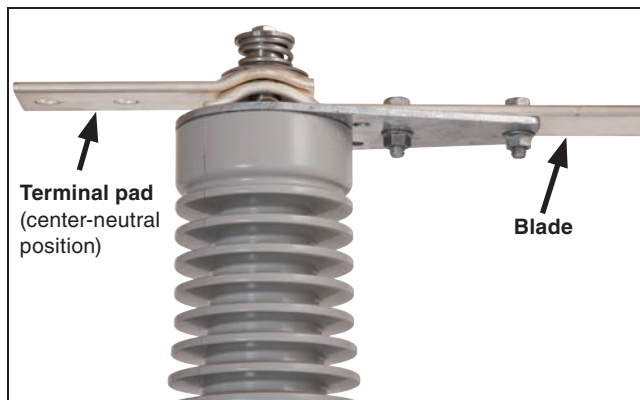

Figure 30. Place articulating terminal pad in the center-neutral position.
- (b) Place the hinge-end articulating terminal pad in the center-neutral position. See Figure 30.